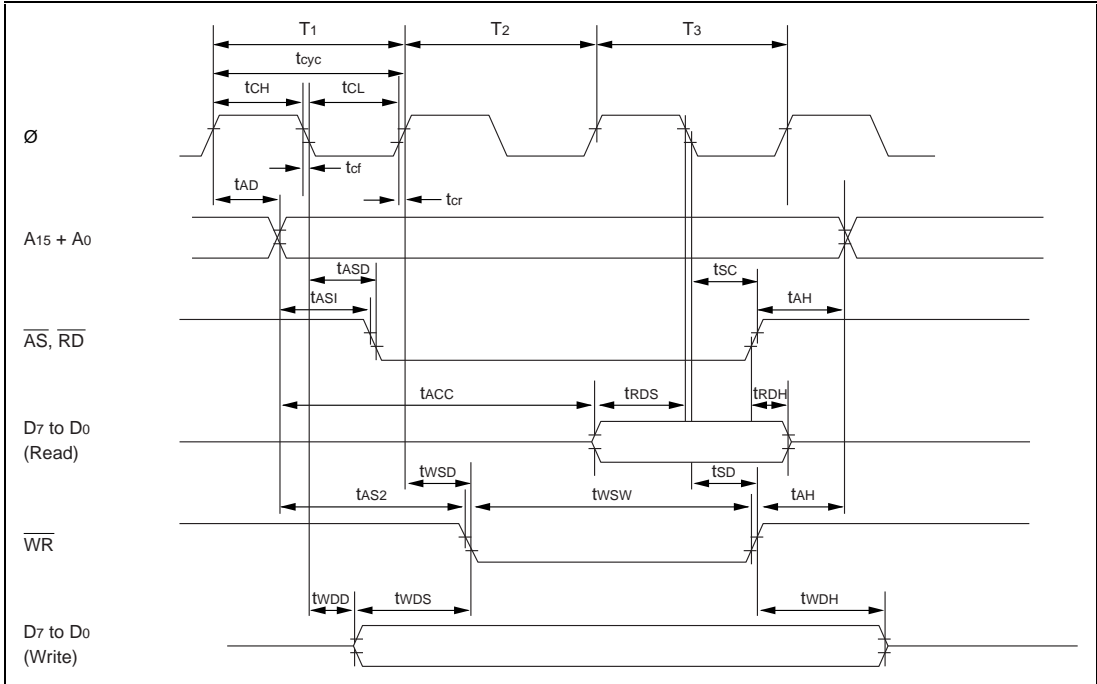

Figure 16.4 Basic Bus Cycle (without wait states) in Expanded Modes
16.3.1 Bus Timing	Figures 16.4 to 16.5